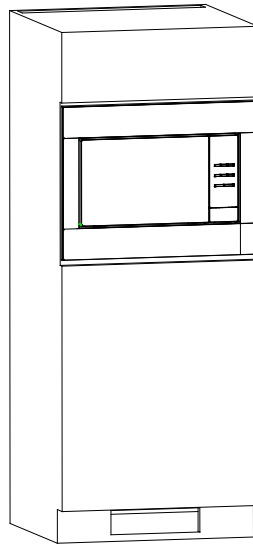

Fig 6
g) Final assembly as shown in Fig.6.